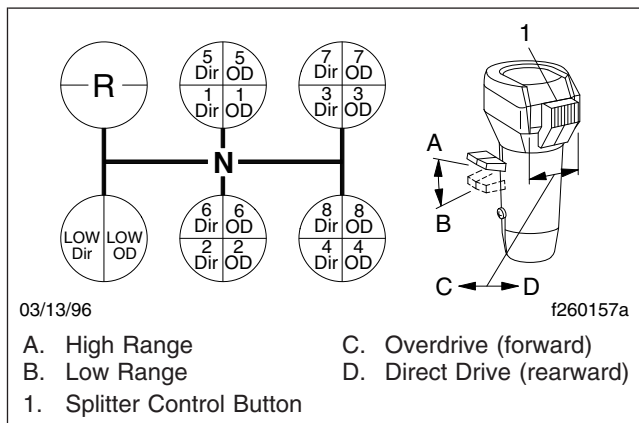

Fig. 14.2, Eaton Fuller 18-Speed Transmission Shift Pattern
Eaton Fuller 18-speed transmissions have eighteen forward speeds and four reverse speeds. Each transmission consists of a 5-speed front section and a 4-speed auxiliary section. The auxiliary section contains low- and high-range ratios, plus a splitter gear. See **Fig. 14.2**.
2. Position the range-preselection lever down, in low range and make sure the splitter-control button is in the low position. See **Fig. 14.2**.
drive (rearward) position (**Fig. 14.2**). Double-clutch into 1st gear.